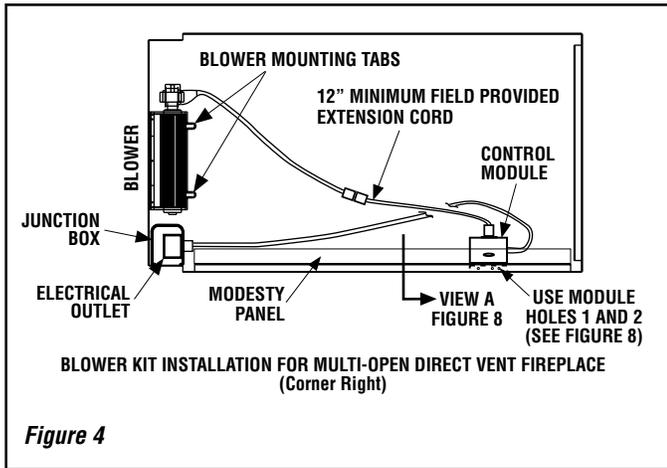

Figure 4
**Multi-open direct vent** - Open all remaining bottom hinged-panels. Slide the blower assembly through the closest opening to the flue side of the cabinet base. Position the blower assembly so that the tabs (located on the cabinet base) are seated in the notches of the blower bracket. Bend the tabs over to secure the blower assembly. See Figure 2 for see-through, peninsula or corner-left models; Figure 4 for corner right models.
- c** - see **Figure 4** for *EDCR-2 Multi-open units*;